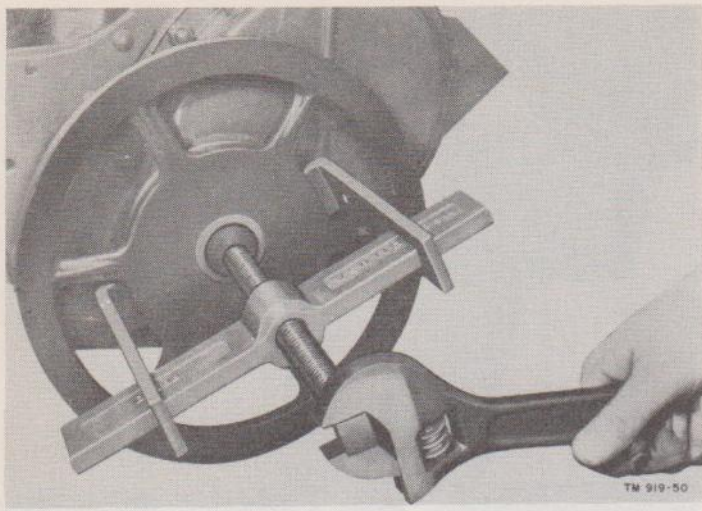

Figure 50. Removing crankshaft pulley.
(1) Remove the crank ratchet (47) from the crankshaft. Remove the crankshaft pulley (48) with a puller as shown in figure 50. Remove the key (60).
(2) Remove the nuts, bolts, and lockwashers which secure the gear cover (49) to the engine. Remove the gasket (50). Then pull the oil seal (51) out of the gear cover.
(3) Slip the oil slinger (61) and the crankshaft gear spacer (62) off the crankshaft (67).
(4) Wash all parts in oil (D-40 or D-35) or solvent (SD).